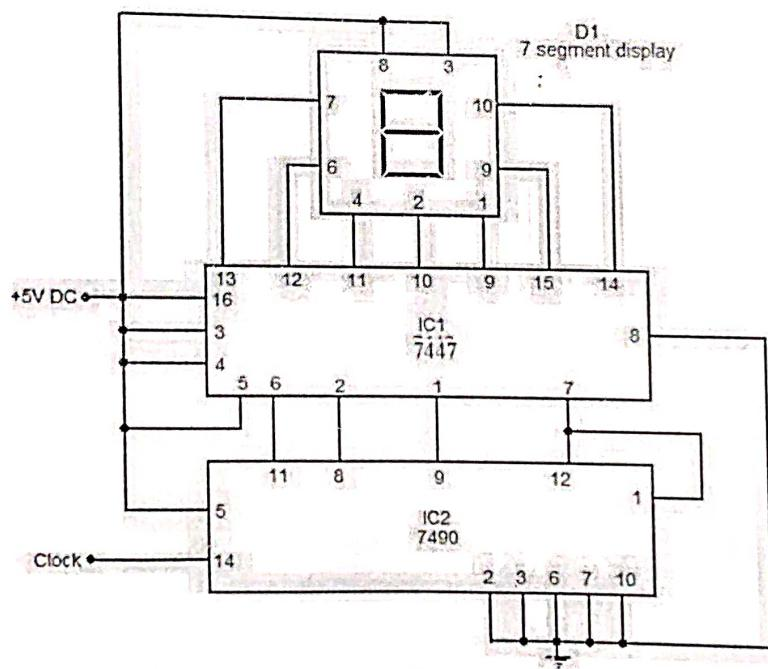

Figure 7: Connection diagram as per CASE-2
7.2 Connection diagram: - The output of IC-7490 is connected to IC7447 decoder and decoder output to 7-segment display unit. Make the connections as shown in Figure 7, as per case-2 of observation table.